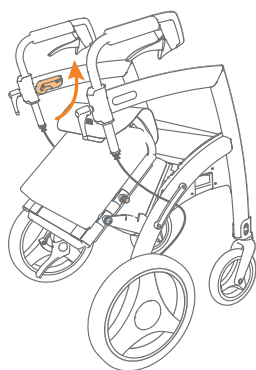
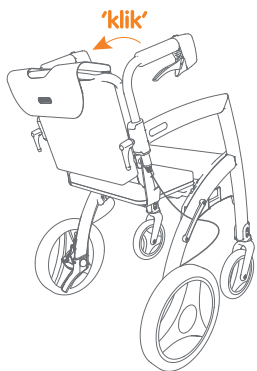

Figure 34: Pull the backrest further up.
Figure 35: Click the backrest into the guide rails.
- c. Pull the backrest further up and then back (**Figure 34**) so that the locking bolts click into the upper guide rails on the frame (**Figure 35**). If the upper locking pins do not slide smoothly into the upper guide rails on the frame, push the backrest forward until halfway up the frame and try again.